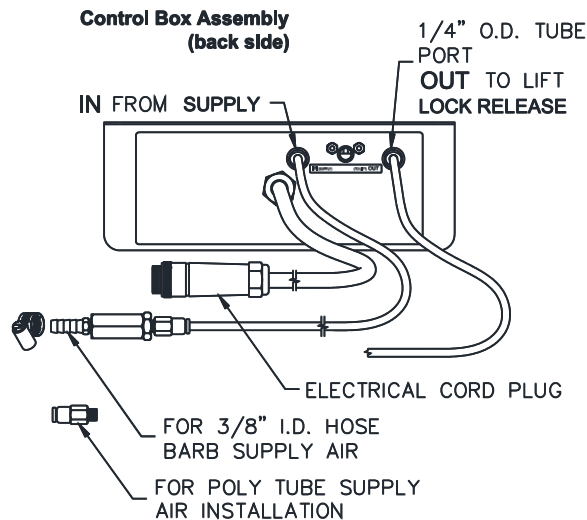

Fig 13 –Back of 3-Button Control
21. Connect the 1/4" airline to the 3-button controller. Connect the shop air to the 3/8 ID Barbed Fitting or 1/4 NPT x 1/4 TUBE UNION Fitting. **See Fig 13.**